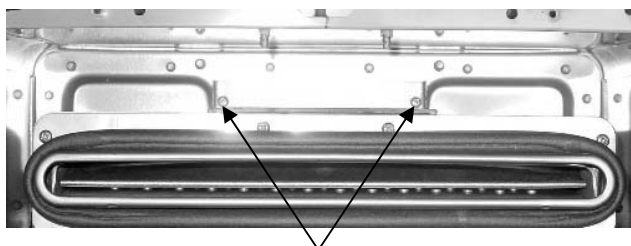

Figure 4 Top attachment screws
15. Remove the 4 screws connecting the heat exchanger to the casing. (Figures 4 and 5)
22. Install the 4 screws at the top and bottom of the heat exchanger to the casing. (Figures 4 and 5)